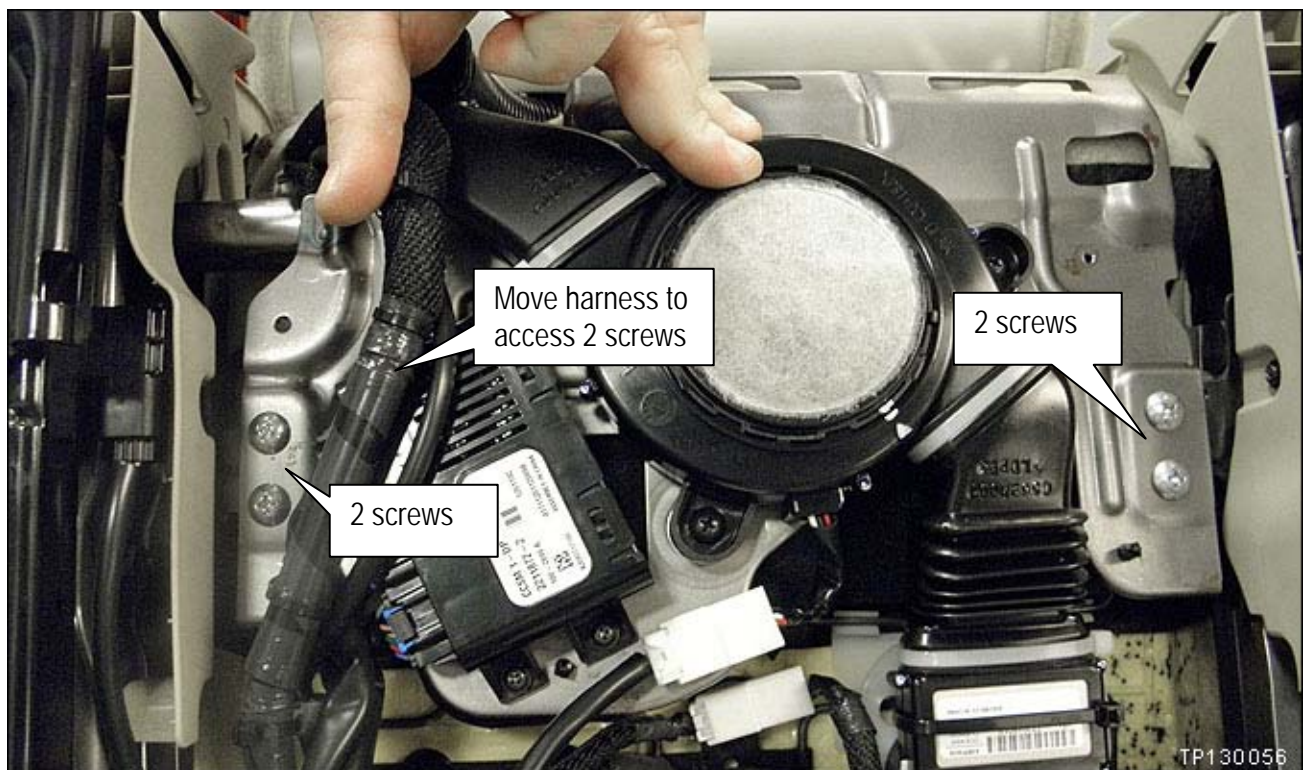

Figure 9
21. If equipped with climate control seat; remove the 4 screws (blower motor bracket screws) shown in Figure 9.